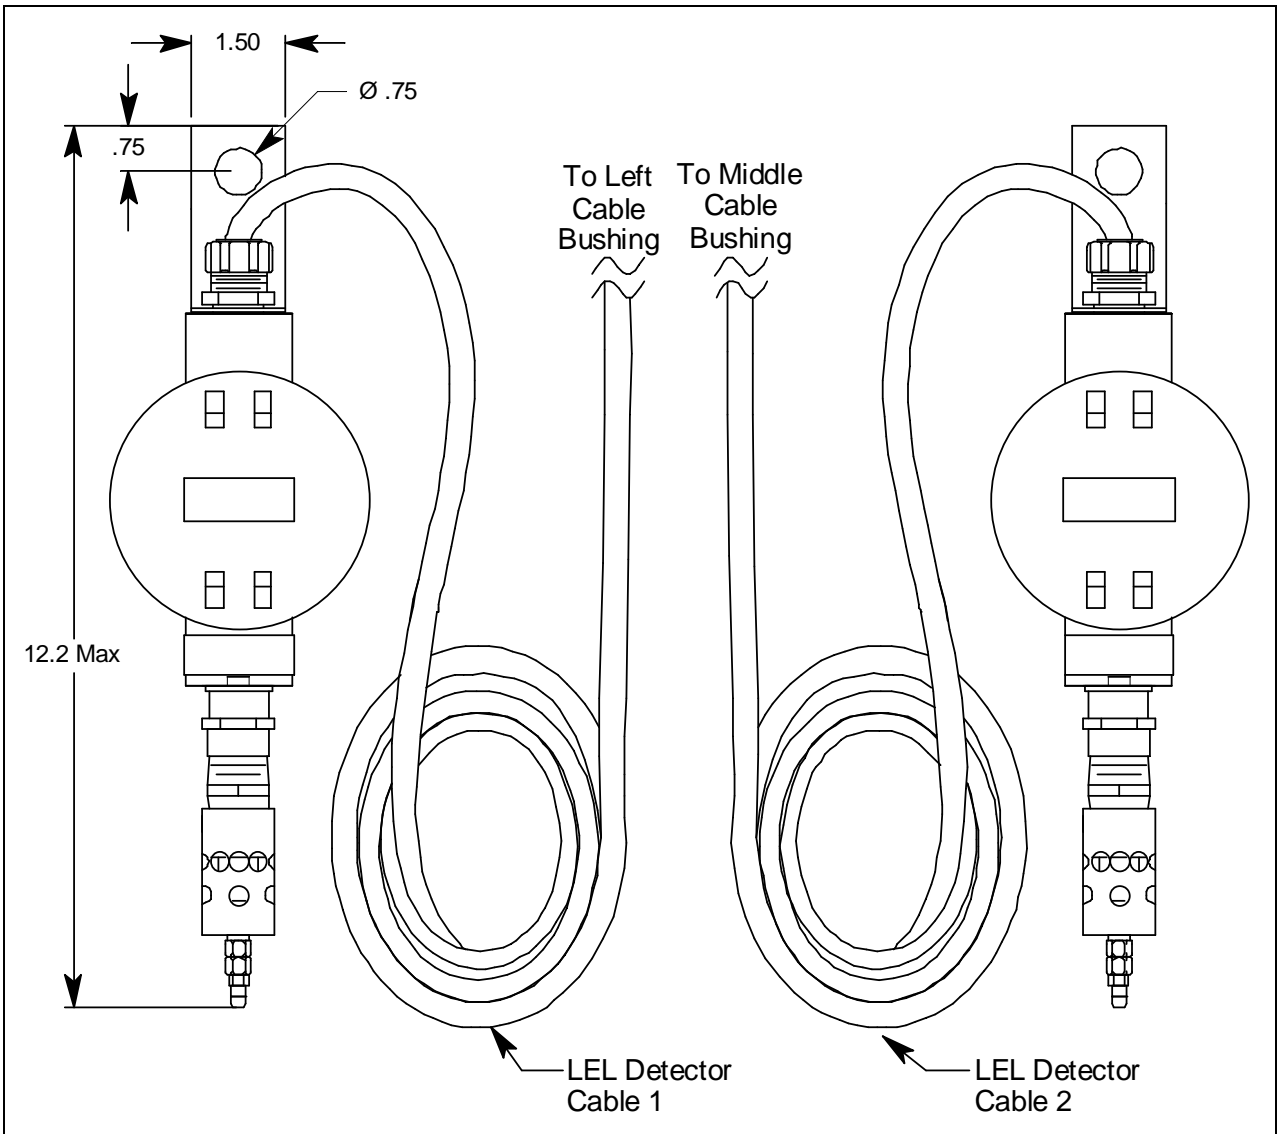

Figure 6. LEL Detector Outline and Mounting Dimensions
6. Connect the Line and Neutral AC wires to the AC power terminal strip as shown in Figure 6.